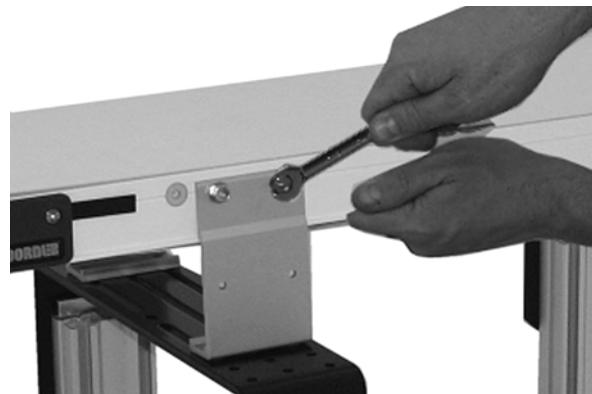

Figure 17
3. Hand tighten the screws to secure (**Figure 17**). Recommended torque is 150 in.lbs (17 Nm).